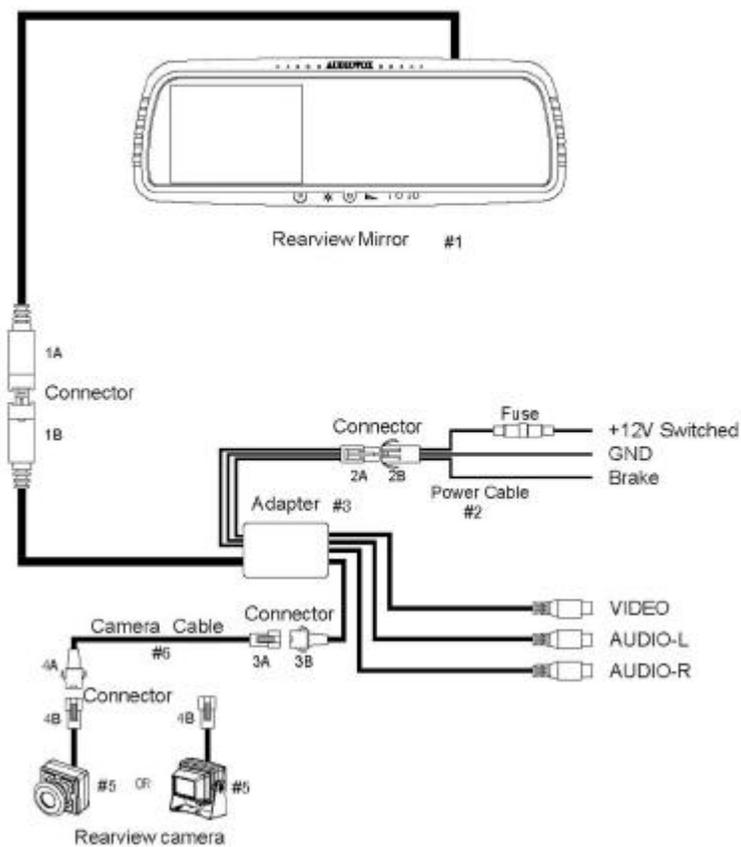

Figure 7
(3) Connect the mirror cables adapter and power cable follows the fig.7 illustration for connection.